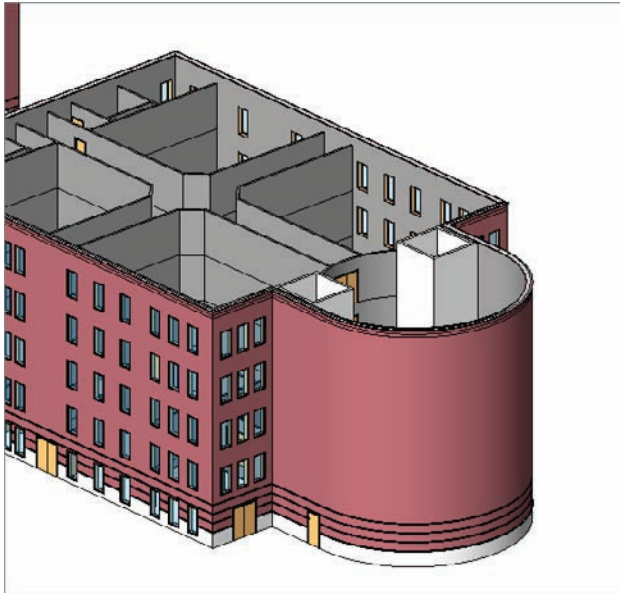

FIGURE 4.55 Using Copy/Paste, align the windows to the higher floors. This will influence your floor layout for each level.
8. For the windows, go to a 3D view, and using Copy/Paste, align them up all the way to Level 5. This way, you know your windows are aligned, and you can follow this procedure in your room layout for each floor (see Figure 4.55).